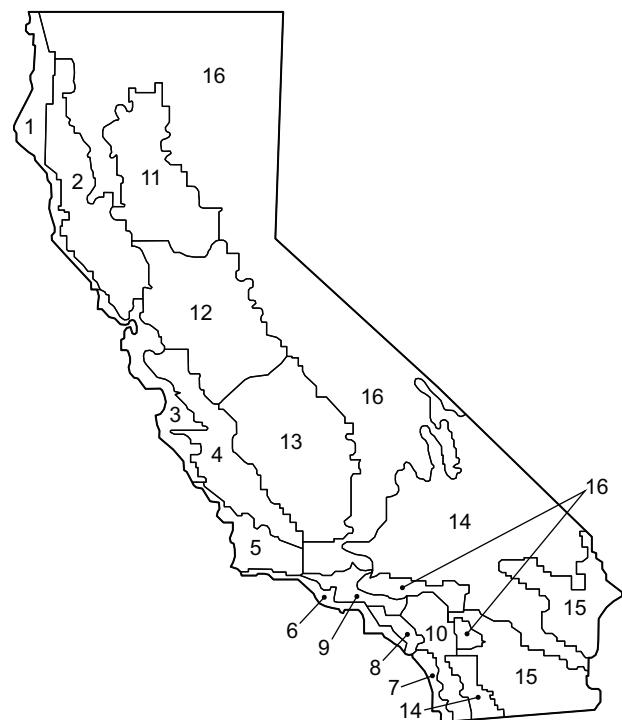

Fig. 78 — California Title 24 Zones
- b. See Fig. 78 for map of California Title 24 zones.